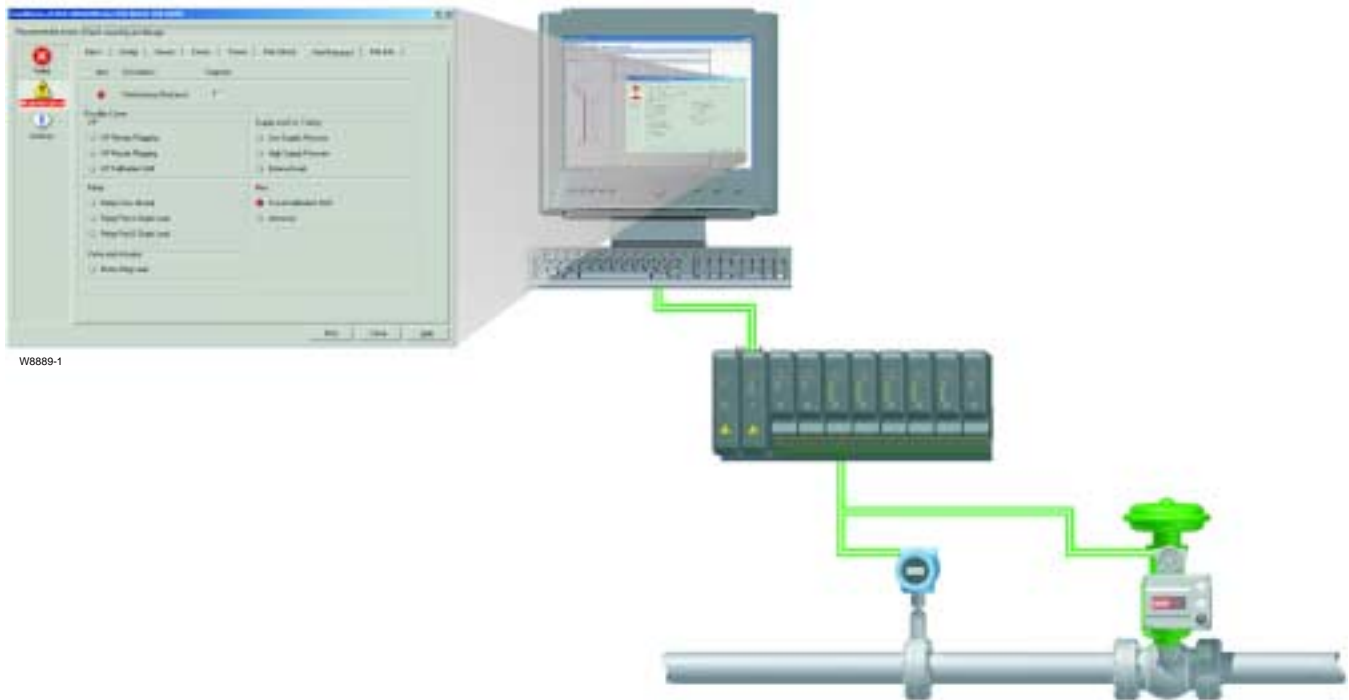

Figure 3. PlantWeb® Alerts, Displayed on a DeltaV Host System
With FIELDVUE Performance Diagnostics (PD) capability inside the DVC6000f, control valve maintenance is easier. PD alerts run continuously, analyzing valve and actuator data while the valve remains in service, controlling the process normally. From the information gathered, the DVC6000f can trigger PlantWeb alerts, as shown in figure 3, that forewarn valve performance problems before they impact process operation.
Some instrument alerts can also be used to trigger PlantWeb alerts that will be reported in Failed, Maintenance or Advisory categories, as configured by the user (refer to figure 3). PlantWeb alerts, when enabled, are visible through the DeltaV alarm interface tools, such as the alarm banner and the alarm summary object.